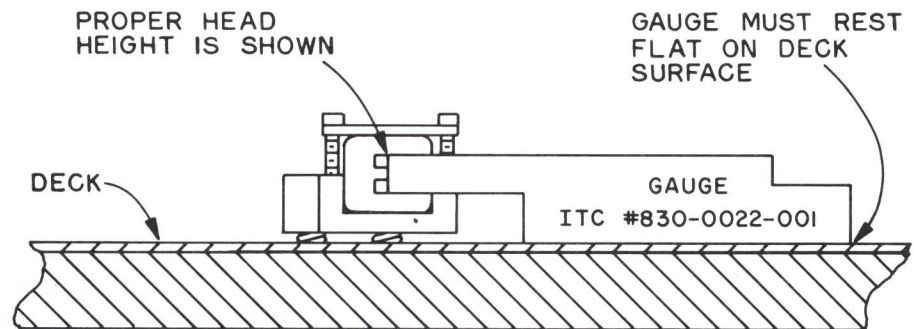

FIGURE 5-6
2. **Coarse Height** — Adjust the front height screw FH so that the top of the upper head track (pole piece) is 9/16 of an inch above the deck plate surface. The alignment tool (part number 830-0022-001) may be used for this purpose. See Figure 5-6.